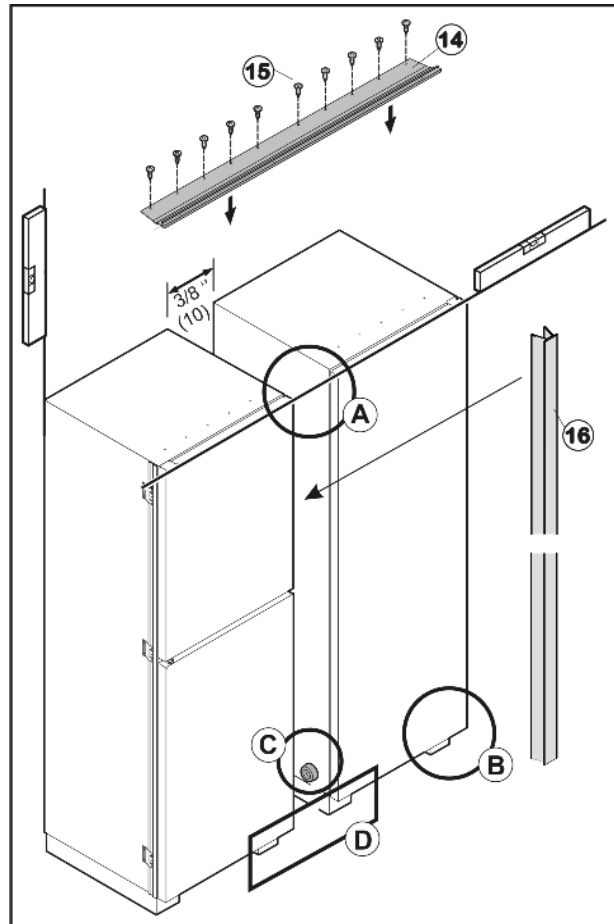
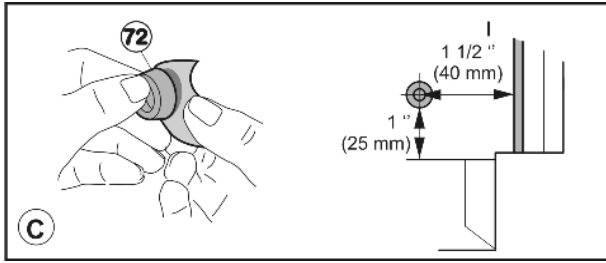
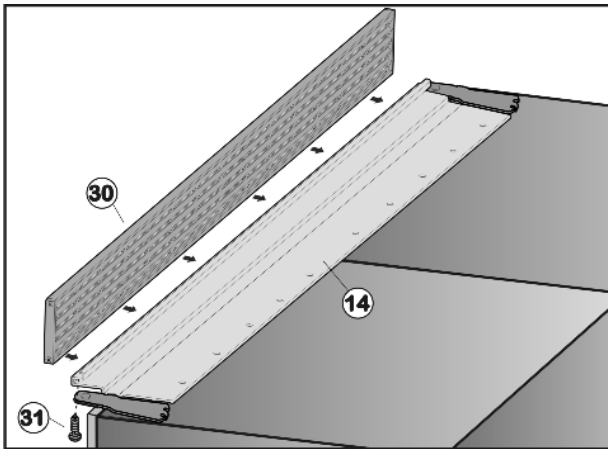
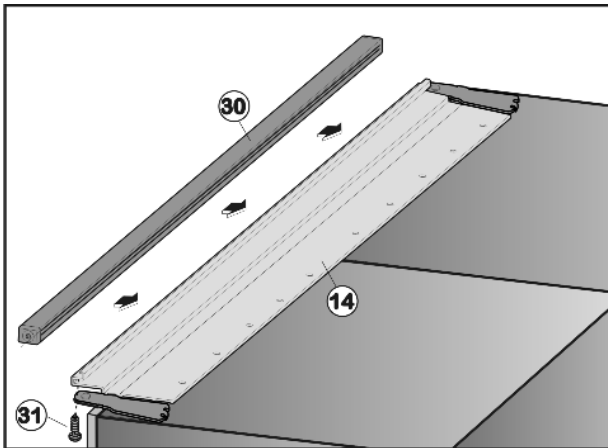

Fig. 61
Fig. 63
Fig. 68
Fig. 69
- ▶ Glue spacer Fig. 63 (72) onto the lower part of the side wall on the handle side, approximately 1.5 in. (40 mm) as measured inwards from the front edge of the appliance.
- ▶ Position end strip Fig. 61 (14) over the installation contour and align it such that the holes in ventilation grille and installation contour are above each other.
- ▶ Screw on upper installation contour Fig. 61 (14) through the pre-cut holes using screws Fig. 63 (15).
- ▶ Position ventilation grille Fig. 68 (30) over the installation contour Fig. 61 (14) and align it such that the holes in ventilation grille and installation contour are above each other.
- ▶ Screw ventilation grille Fig. 68 (30) to installation contour from below using four screws Fig. 68 (31).
- ▶ Position end strip Fig. 69 (30) over the installation contour Fig. 61 (14) and align it such that the holes in ventilation grille and installation contour are above each other.
- ▶ Screw end strip Fig. 69 (30) to installation contour from below using four screws Fig. 69 (31).